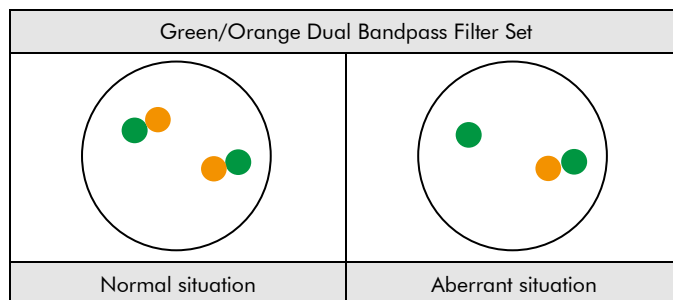

Fig. 2: Expected results in normal and aberrant nuclei
**Normal situation:** In interphases of normal cells or cells without a deletion involving the MYB gene region, two green and two orange signals appear (see Fig. 2).
**Aberrant situation:** In a cell with deletions affecting the MYB gene region, a reduced number of orange signals will be observed. Deletions affecting only parts of the MYB gene region might result in a normal signal pattern with orange signals of reduced size (see Fig. 2).